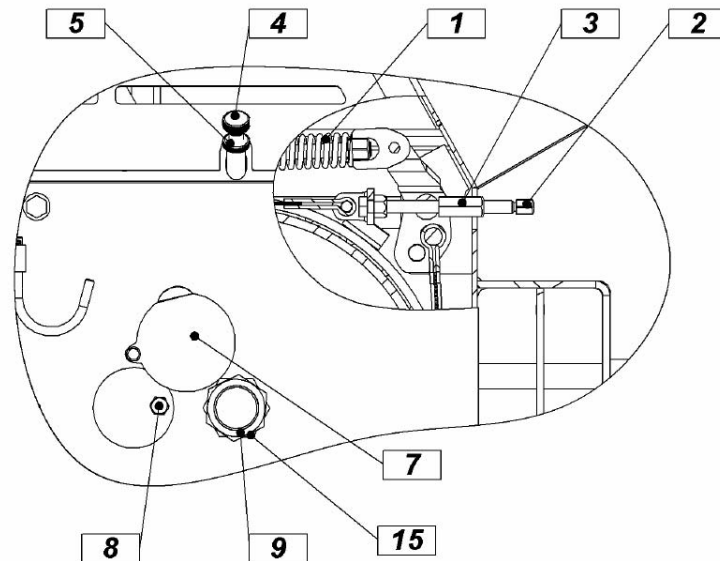

Figure 11
Pulling force on the clutch is factory set and does not require to be changed. Due to wear of friction surfaces, distance between clutches needs to be set after a certain period. This is done once a year at usual work in the forest or after every 1000 m³ of pulled out logs, but not before end of warranty period. Perform the setting by unscrewing the nut (pos. 9, figure 11), which is the safety nut, to the left. Then, tighten the high nut (pos. 15, figure 11) to the right. In this position, there is no distance between the clutches. Then, unwind the nut for one turn to the left – this creates a gap between the lamellas of approximately 4-5 mm. Retighten the safety nut (pos. 9, figure 11) to the right. This protects the high nut from unwinding. Engage the motor and PTO shaft, pull out the rope and begin controlling the adjustment. If, despite not engaging the right button for pulling, the rope starts to move, then the distance between the clutches is too small. Increase it for approximately 1 millimeter or repeat the setting procedure by unwinding the high nut for ¼ of a turn to the left. Engaging pulling is not allowed, if the nuts (pos. 9 and 15, figure 11) are not installed on the shaft, because the hydraulic cylinder of the clutch gets damages, because the maximum permitted travel is only 8 mm!
With bolt (pos. 4, figure 11) and wing nut (pos. 5, figure 11) set the preliminary brake. By rotating the bolt to the right, the brake force is increased, with rotating to the left, the brake force is decreased. Then tighten the wing nut, which prevents the bolt to loosen automatically. Proper setting ensures that the wire rope does not roll off the drum automatically or excessively. This would cause loose winding and damage to the wire rope at fast disburdening of the brake and unwinding. Preliminary brake is properly set when unwinding of the rope is still possible without excessive effort. If you pull the rope uphill, it is possible to additionally disburden the brake, so that rope towing is easier, the bolt (pos. 4, figure 11) must be returned to its original position immediately after.
At the end of pulling, the differential brake automatically engages. The brake is factory set to the braking force, which is 25% higher than the rated pulling force of the winch. As the braking padding is wearing down, the braking force is changing and you have to reset it periodically. This is required when the brake does not hold the burden as described in the beginning of this paragraph. The braking force is adjusted by loosening or tightening the screw (pos. 2, figure 11) after you have loosened the locking nut (pos. 3, figure 11). Tightening the screw (pos 2, figure 11) decreases the braking force, while loosening increases it. After the adjustment is completed, tighten the locking nut (pos. 3, figure 11). Correctly adjusted frictional brake in the engaged position prevents the burden from sliding backwards, while in the disengaged position it allows for an uninterrupted drawing of the rope from the winch.
First, remove the triangular protective net on the winch column. Then rotate the cover (pos. 7, figure 11) and rotate the drum in a position, which enables unscrewing of the bolt (pos. 8, figure 11) on the drum. Insert the wire rope in the guide of the upper pulley and direct it through the upper pulley to the rope drum. Insert the rope in the groove and tighten the bolt (pos. 8). Then start to wind according to the procedure, which applies to towing. Once the entire length of the wire rope is wound, unwind it again and wind it again strongly according to the procedure, which is described in the chapter "Wire rope unwinding" to prevent damage to the rope.